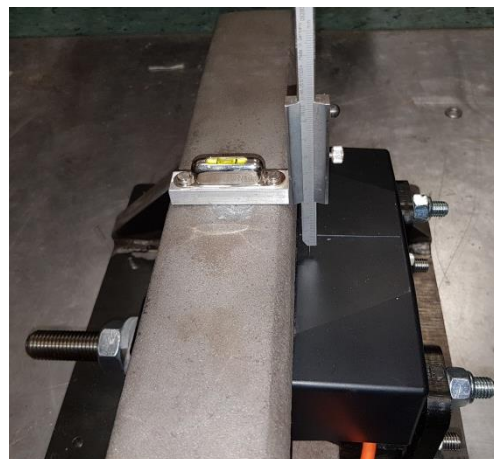
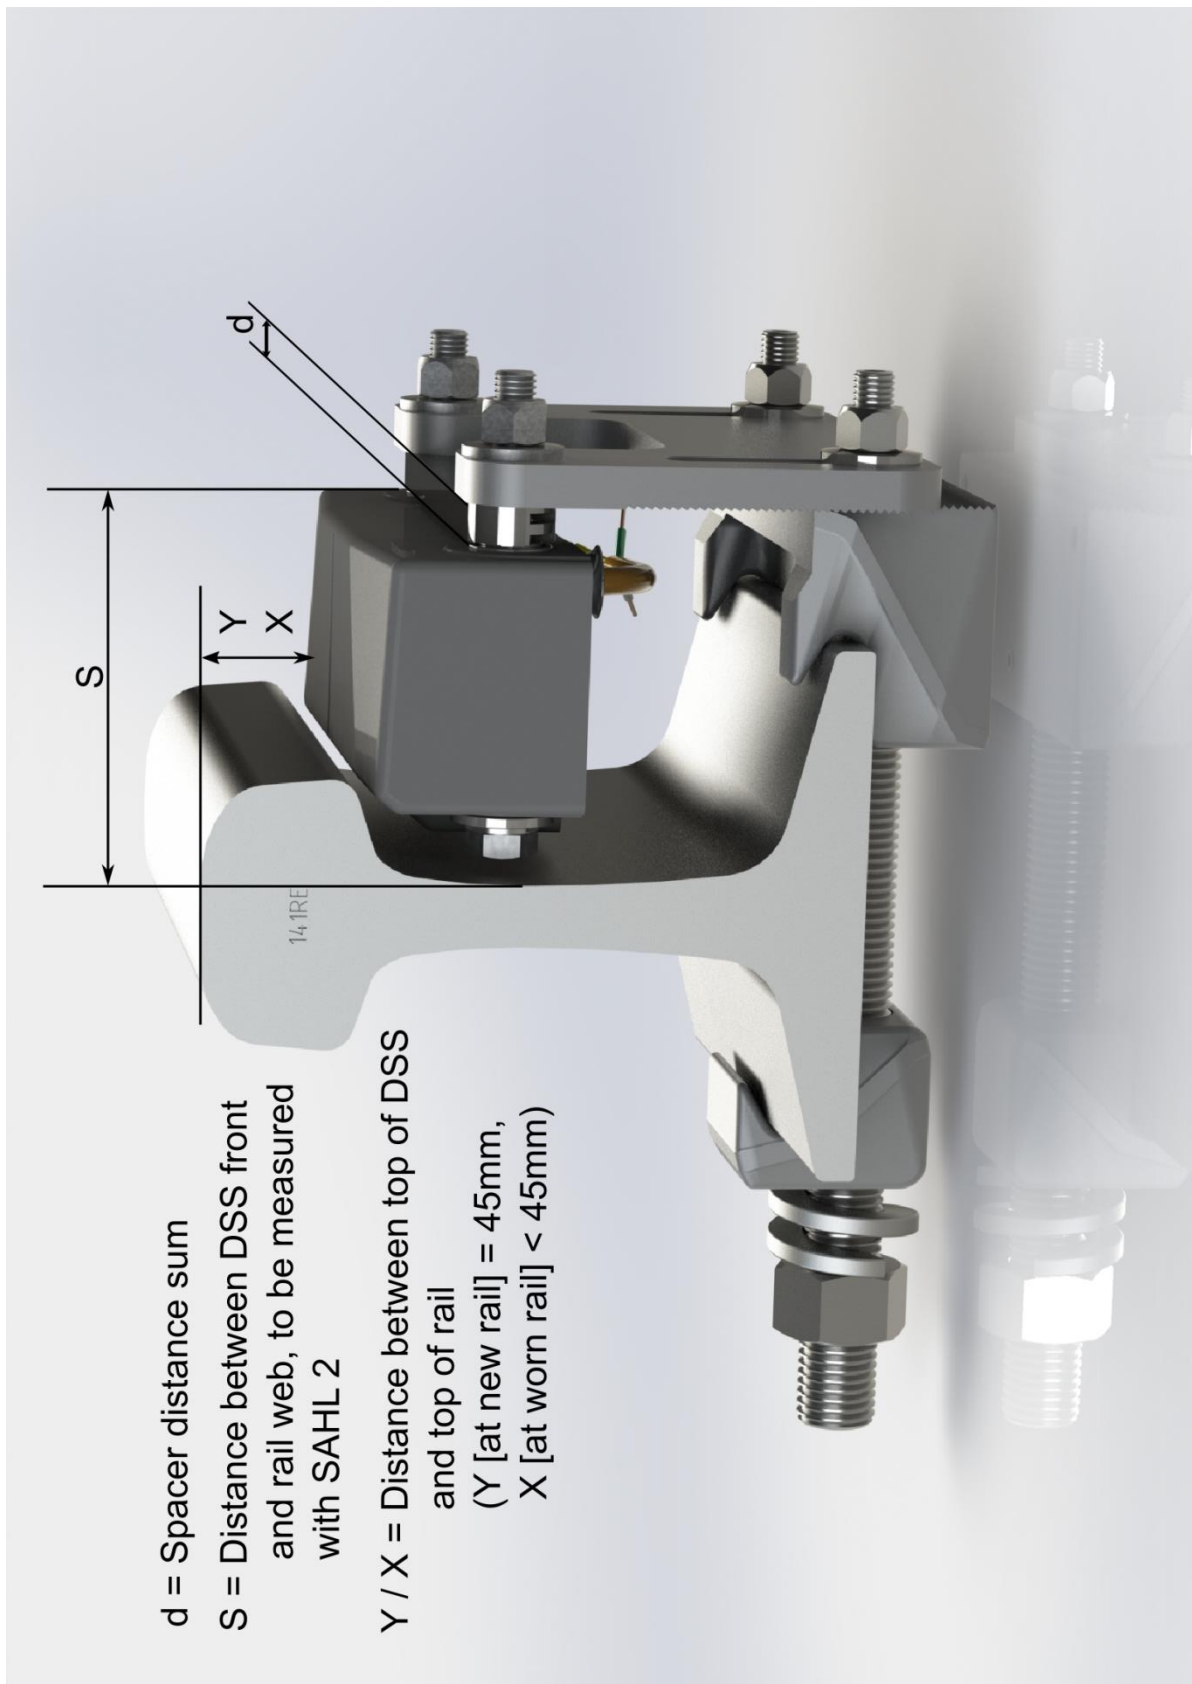

Figure 10: Measure Y (X) with gauge SAHL 210
Figure 11: Installation Drawing11
- The distance Y [X when rail is worn](cf. figure 10 and figure 11) from the upper edge of the DSS to the upper edge of a new rail is 45 mm ( $\pm 1$  mm) for each DSS type and can be measured with a SAHL 2 (taking care that the gauge is positioned rectangular from the highest point on the upper side of the rail) Figure 10: Measure Y (X) with gauge SAHL 2 Figure 11: Installation Drawing11